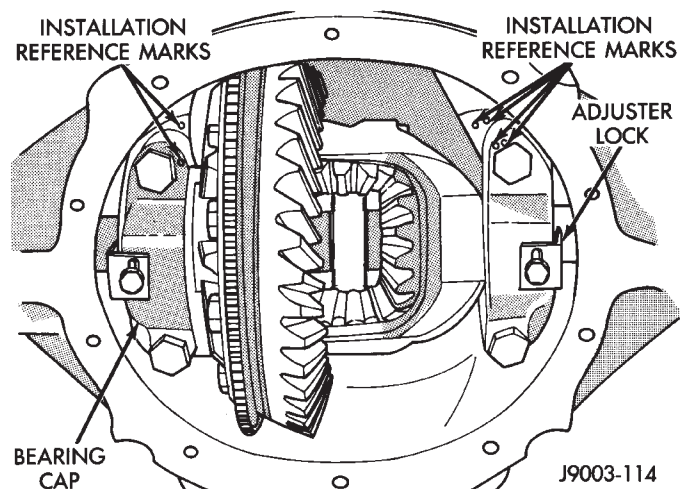

Fig. 20 Bearing Caps & Bolts
(2) Observe the reference marks and install the differential bearing caps at their original locations (Fig. 20).
(3) Install bearing cap bolts and tighten the upper bolts to 14 N·m (10 ft. lbs.). Tighten the lower bolts finger-tight until the bolt head is seated.
(4) Perform the differential bearing preload and adjustment procedure.
(5) Install axle shafts and differential housing cover.